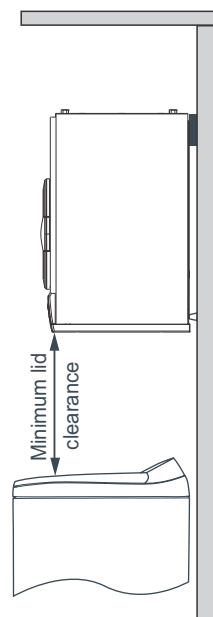

Fig. 3 Inverted wall mounting
4. Attach the 2 hanging hooks to the top bolts, and the left and right support brackets and damper gaskets to the bottom bolts (Fig.3).